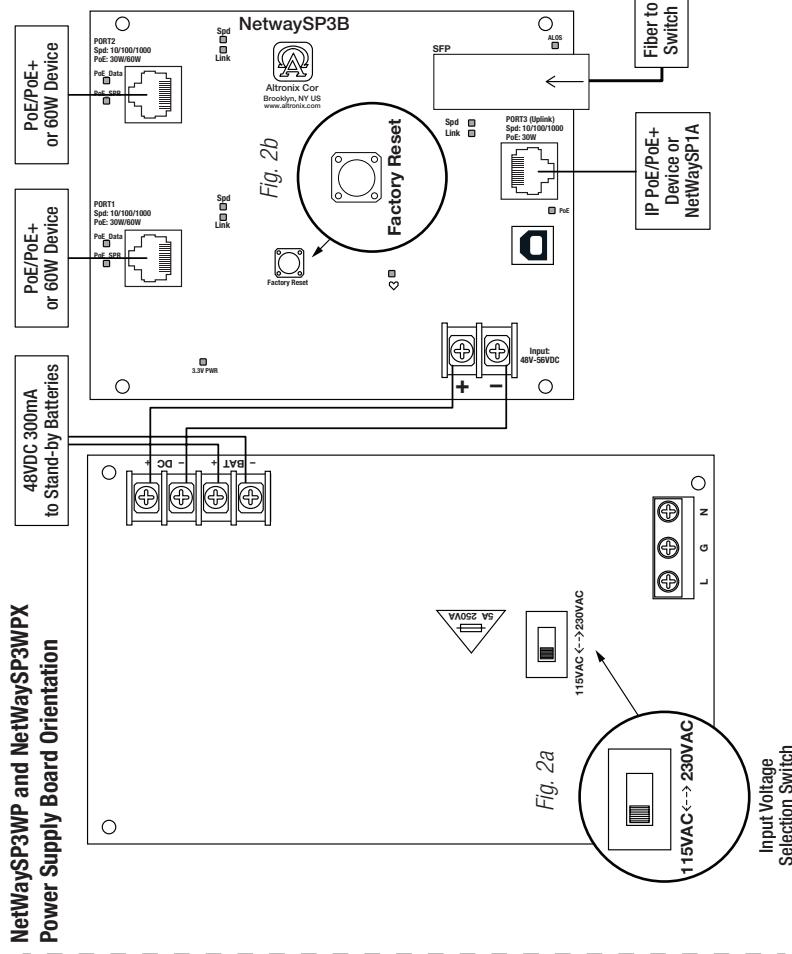

Fig. 2
- NetWaySP1A - Ethernet over Fiber Media Converter/Repeater -for applications requiring an additional SFP (Fiber) port (Fig. 2, pg. 7).
2. Secure cabinet to earth ground. Connect AC power from overcurrent protective device circuit breaker (20A @ 115VAC, 60Hz, 16A @ 230VAC, 50/60Hz) to the terminals marked [L, N] on power supply board (*Fig. 2, pg. 7*). Use 14AWG or larger for all power connections (Battery, DC output, AC input). Connect ground lug \ominus to earth or green branch wire (12AWG min.).
3. Connect structured cables from port marked [Port 1], [Port 2] or [Port 3] on NetWaySP3B to PoE compliant cameras/edge devices (*Fig. 2, pg. 7*).
- Insert SFP module into port marked [SFP], then connect cable to the SFP module on NetWaySP3B to the corresponding input of an SFP switch (Fig. 2, pg. 7).
- Battery Backup** (if desired): Connect four (4) 12VDC batteries wired in series to terminals marked [+ BAT -] (Fig. 2, pg. 7), carefully observing polarity. When use of stand-by batteries is desired, they must be lead acid or gel type. **For outdoor battery backup, battery enclosure must have sufficient ventilation. Use Altronix Vent2 kit.** **Note:** When batteries are not used, a loss of AC will result in the loss of output voltage.